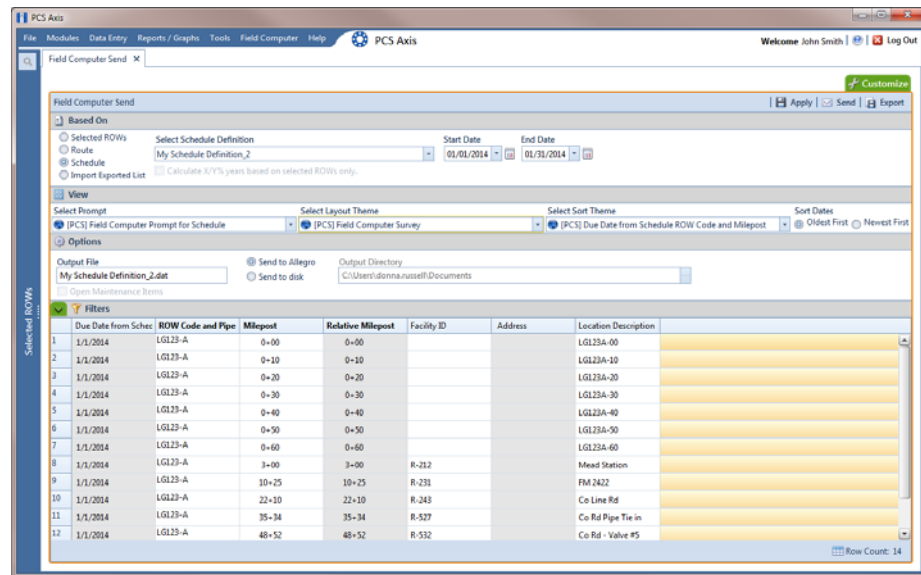

Figure 13-26. Field Computer Send Based on Schedule
- c To set a schedule date range using dynamic start and end dates, follow these steps (Figure 13-26, page 587):